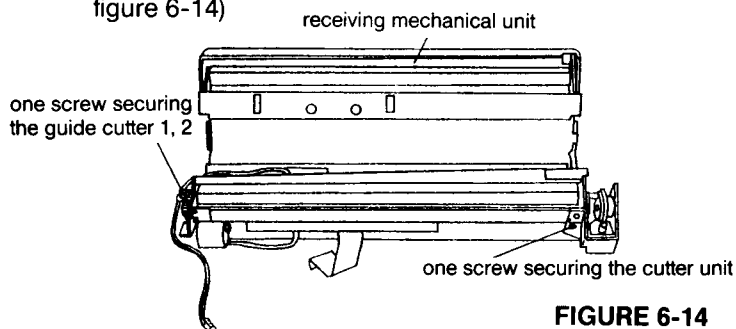

FIGURE 6-14
(3) Replacement of the Auto Cutter
- Remove one screw securing the cutter unit. (See figure 6-14)